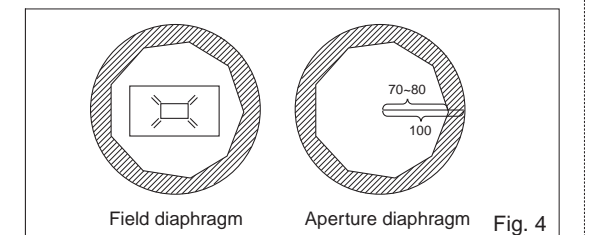

Fig. 4
- (5) Stop down the field diaphragm and aperture diaphragm. (See Fig. 4.)